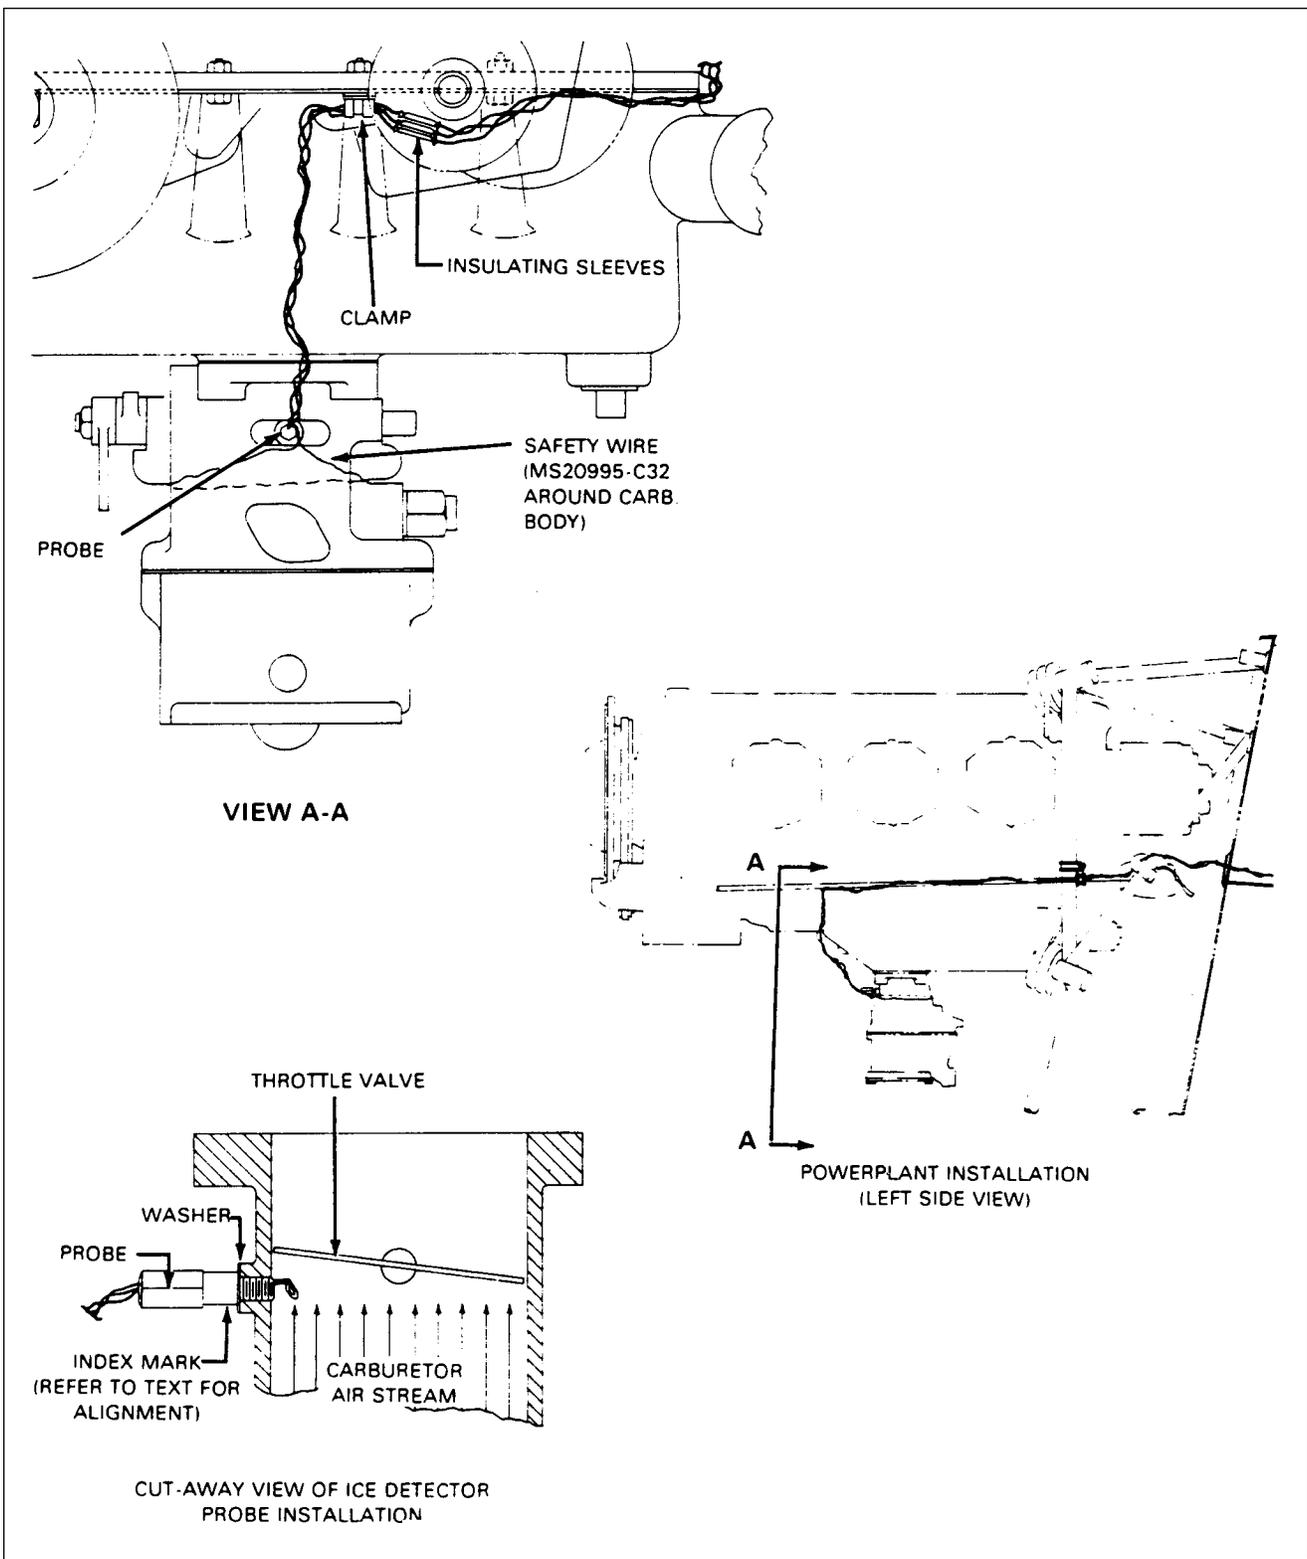

Figure 71-5. Carburetor Ice Detector Probe Installation
**REMOVAL OF ICE DETECTOR PROBE** (figure 71-5)
**INSTALLATION OF ICE DETECTOR PROBE** (figure 71-5)